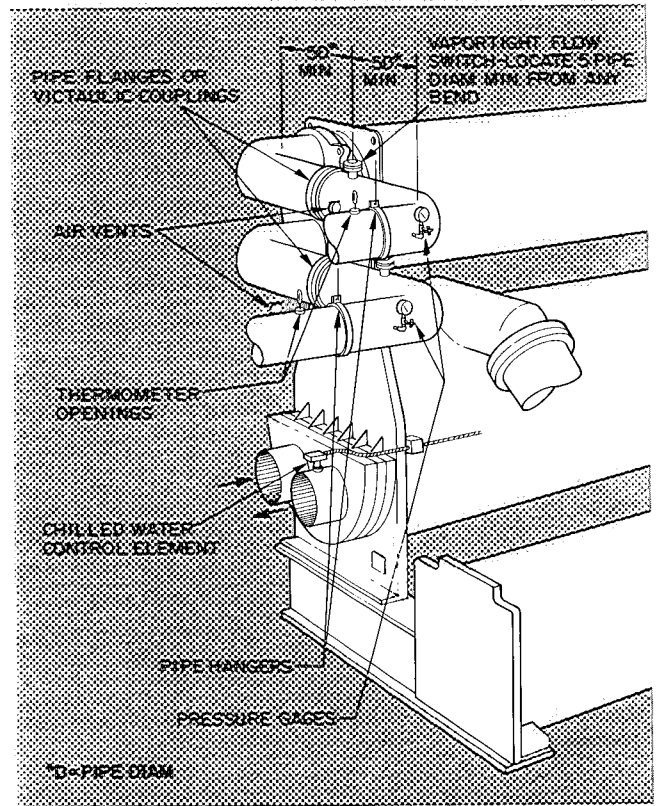

Fig. 4 — Typical Nozzle Piping
1. Chilled water control element (Fig. 4) can be severely damaged by weld heat. Remove element before welding water nozzle. Carefully replace the control element after welding.
3. Provide openings in the water piping for required gages and thermometers (Fig. 4). To ensure accurate readings, thermometer wells in the leaving water pipe should be 6 to 10 pipe diameters from the water box and should extend inside the pipe a minimum of 2 inches. This allows thorough mixing and temperature stabilization before the water reaches the thermometer.